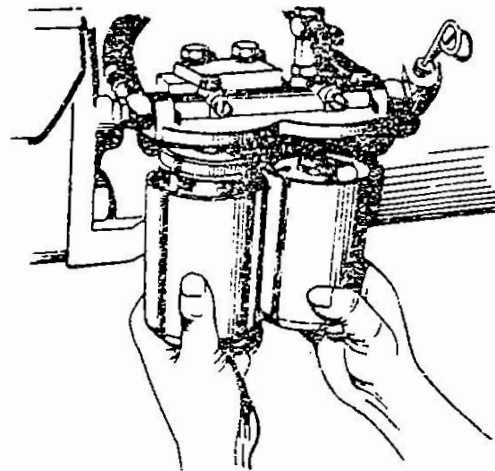

Fig.3.18
* Hold the filter at bottom portion and turn it clockwise till it separates from the filter bracket (Fig.3-18)